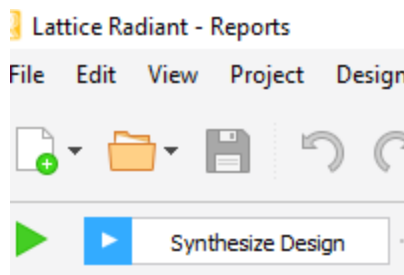

**Figure 4.2. Check Generating Result**
3. Click **Generate**. The **Check Generating Result** dialog box opens, showing design block messages and results as shown in Figure 4.2.
Core Generation, Simulation, and Validation	<ul style="list-style-type: none"> <li>Updated reference to the Lattice Radiant Software User Guide.</li> <li>Updated <a href="#">Figure 4.1. Configure Block of D-PHY Tx</a>.</li> <li>Updated <a href="#">Figure 4.2. Check Generating Result</a>.</li> </ul>